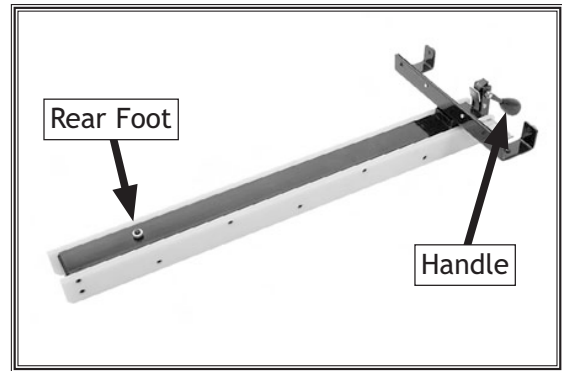

Figure 24. Fence assembled.
- Attach the fence handle to the fence and thread the rear rail foot into the bottom of the fence (see **Figure 24**).